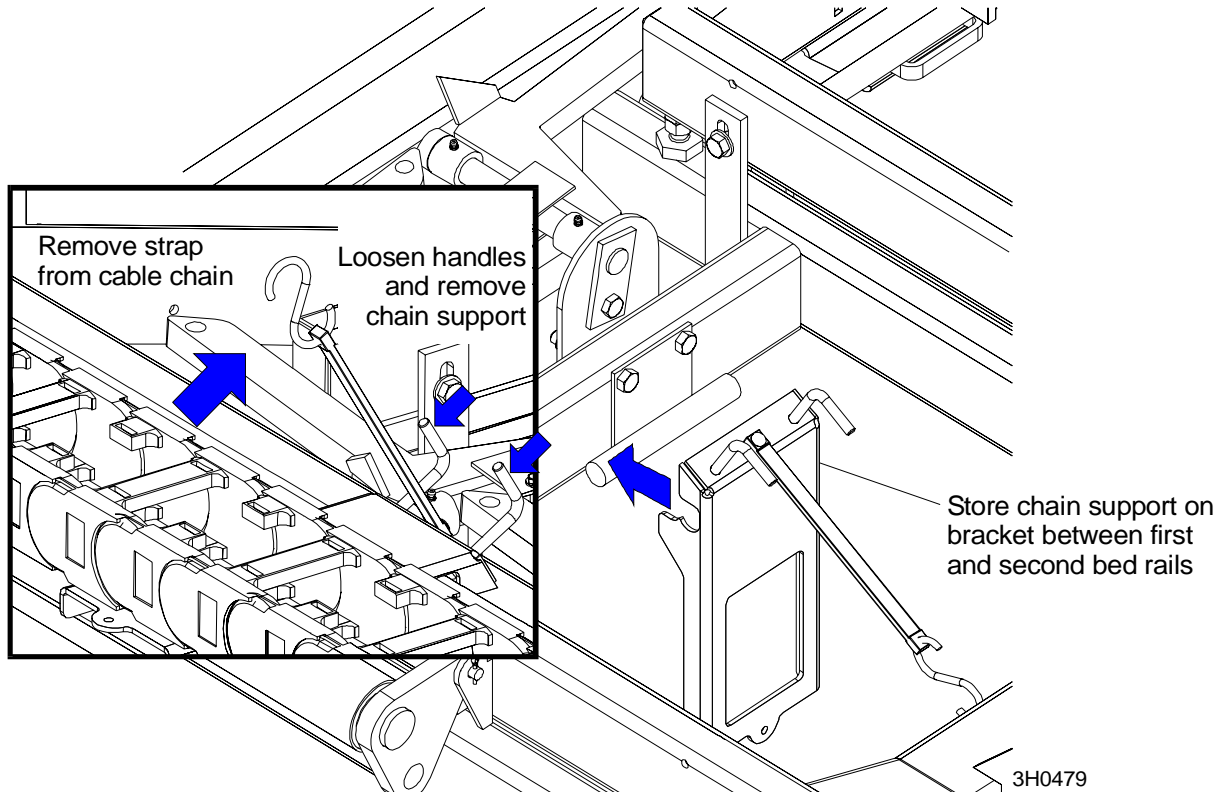

FIG. 3-11
**See Figure 3-11.** Before moving the saw carriage, remove the cable chain support bracket.